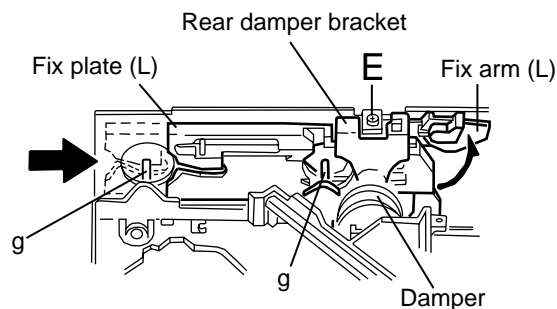

Fig.8
2. Raise the both sides fix arms and move the fix plates in the direction of the arrow to place the four shafts g as shown in Fig.8 and 9.